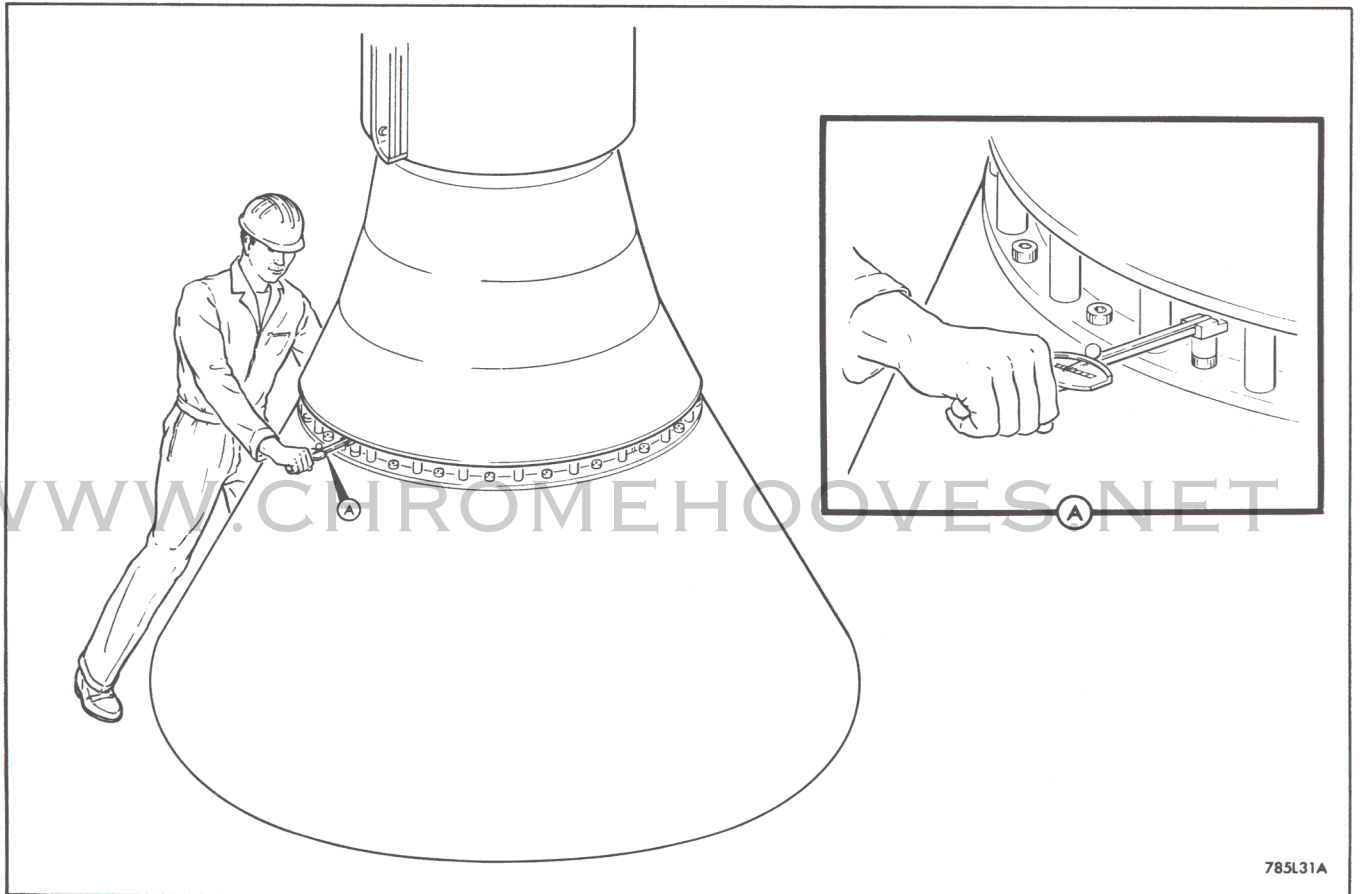

Figure 4-9. Securing R/V to Missile
- 4-47. To secure R/V to Stage II (figure 4-9), proceed as follows: